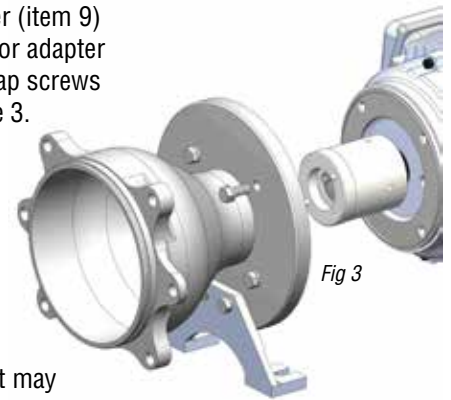

Fig 3
- Install vapor protection o-ring (item 25) in the groove on the back of the motor adapter (item 9) use petroleum jelly or similar substance to help hold the o-ring in place. Slide the motor adapter over the shaft adapter and attach it to the motor face. Use the (4) supplied hex head cap screws & lock washers (items 16 & 16A) and torque evenly to the following values. See figure 3.